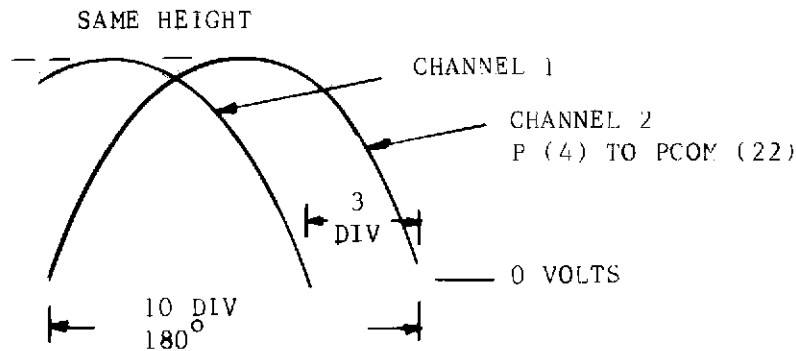

FIGURE 2
Use variable time and amplitude on scope to make channel 2 cover 10 divisions and both channel 1 and channel 2 to have same zero level (DC) and same peak to peak amplitude. Vary rheostat to obtain figure 2. Channel 1 should cross zero 3 divisions before channel 2. Verify that power factor meter reads .8 leading power factor $\pm 5\%$.
7. Switch to log position and obtain Figure 2 except channel 1 now reversed. Power factor meter should read .8 lagging $\pm 5\%$. Relay should be picked up. Slowly increase TPF CW and verify that relay drops when reach .8 $\pm 5\%$.